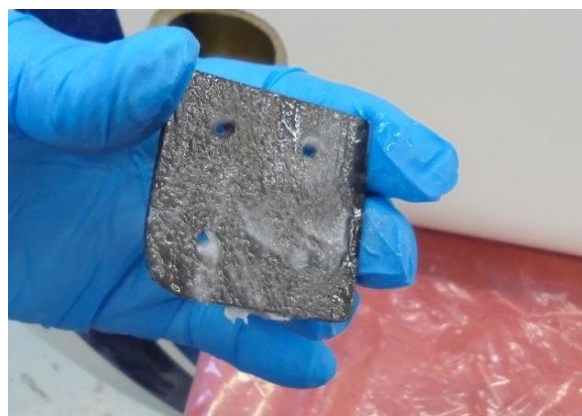

Figure 3: Thickened resin applied to CFRP repair plate
- 7.1.12 Apply thickened resin to the repair plate and to bonding area, refer to Figure 3.
- 7.2.12 Apply thickened resin to the repair plate and to bonding area, refer to Figure 3.